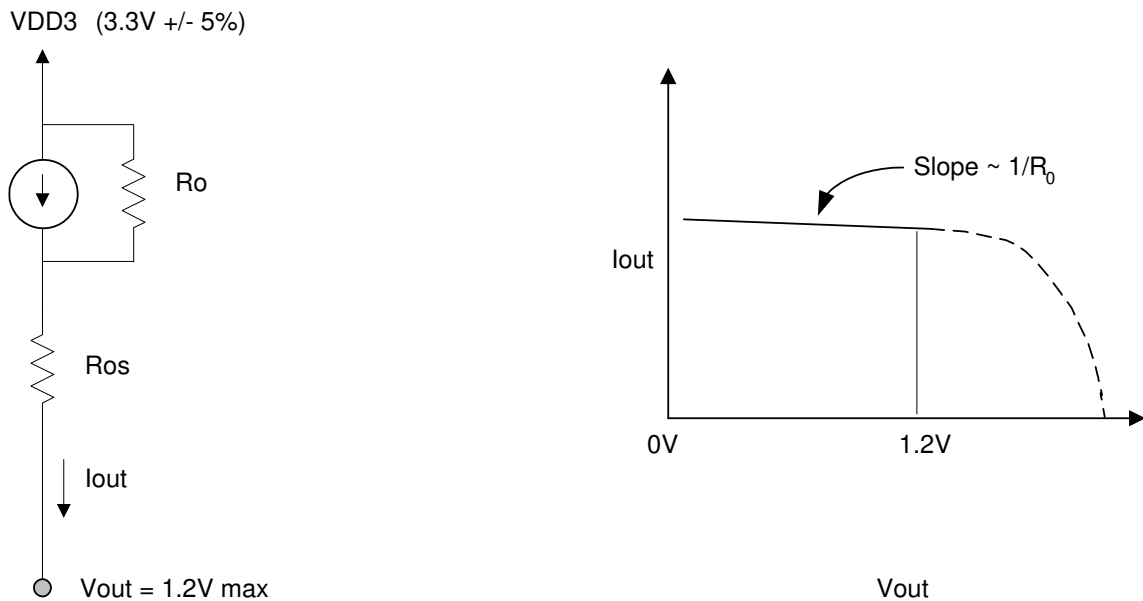

Figure 14.
1. Output impedance of the current mode buffer circuit – R_o (see Figure 14).
2. Minimum and maximum required voltage operation range of the circuit – V_{op} (see Figure 14).
3. Series resistance in the buffer circuit – R_{os} (see Figure 14).